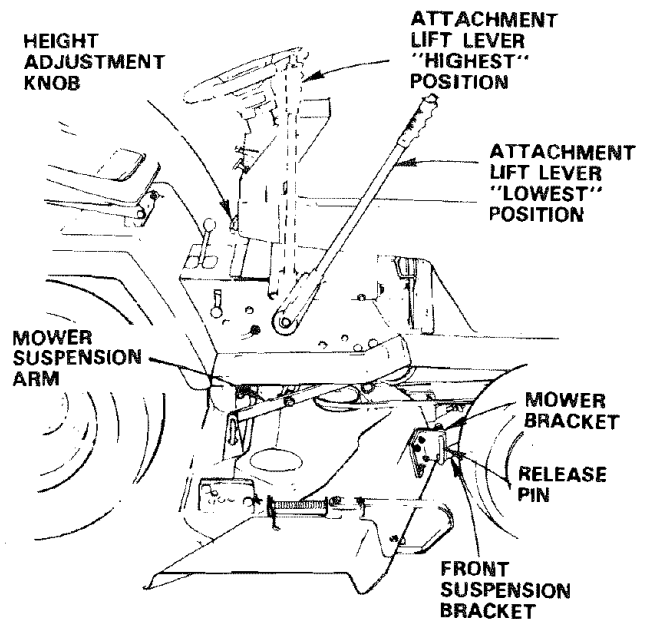

FIGURE 7
- Remove banding from suspension arms (Fig. 7).
- Slide front suspension brackets into mower brackets. Retain with release pins (Fig. 7).
- Turn height adjustment knob (Fig. 7) clockwise ( ) to remove slack from mower suspension.